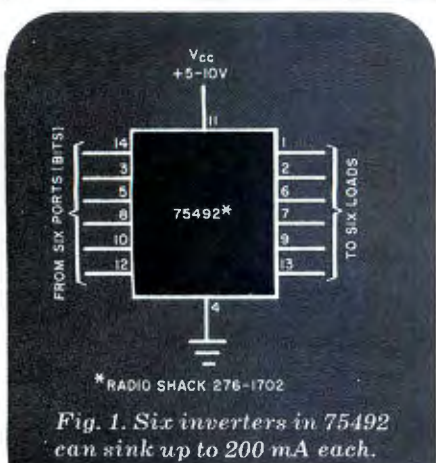

Fig. 1. Six inverters in 75492 can sink up to 200 mA each.
**Basic Interface.** A basic output interface, an inexpensive SN75492 MOS LED-driver IC, is shown in Fig.1. Six computer output-port pins connect directly to the inputs of the device which can sink up to 200 mA on each of its six outputs. This current is sufficient to directly drive a small relay, LED, or optoisolator. All of the interface circuits given in this article employ the SN75492 as the basic building block.